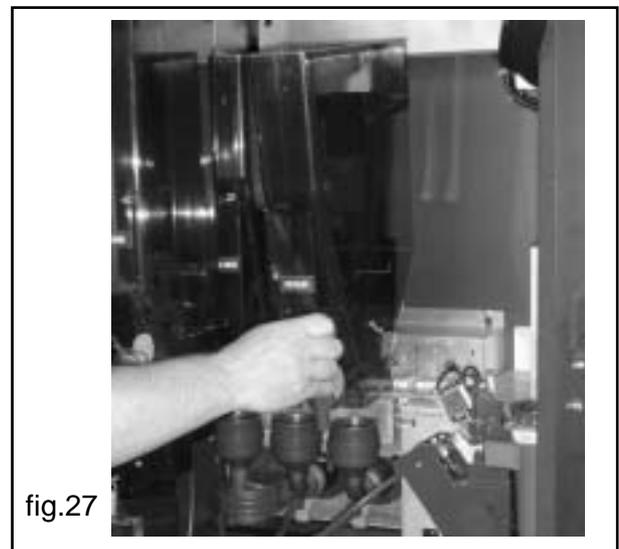

fig.27
- remove all the product containers from the vending machine (fig.27).